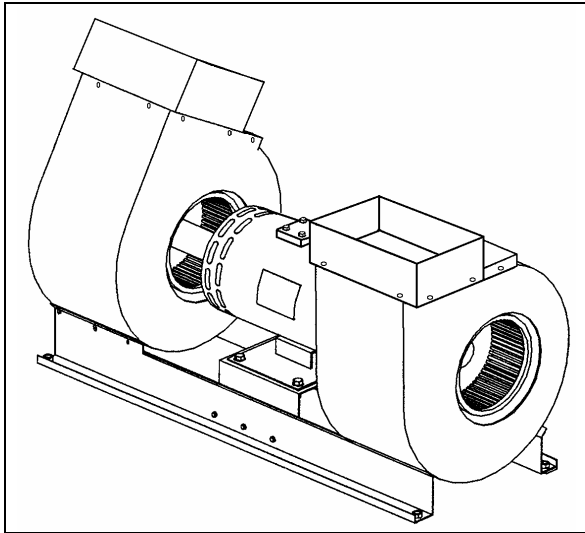

FIGURE 17: EVAPORATOR MOTOR ASSEMBLY 22208
6. From under the vehicle, remove the eight bolts retaining the evaporator fan motor support. Remove the complete unit from the evaporator compartment (Fig. 17).